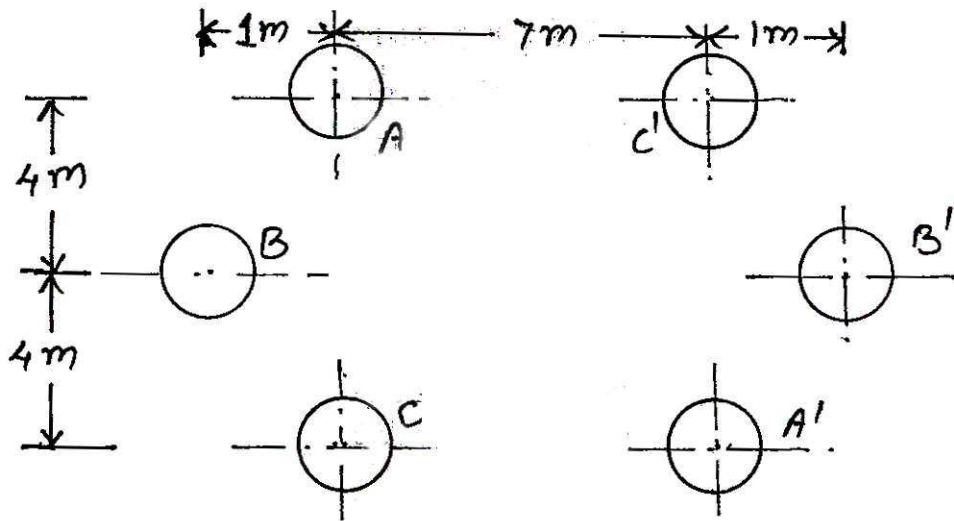

Fig. 1
- (b) Six conductors of a double circuit three phase line are arranged as shown in figure 1. The diameter of each conductor is 2.5 cm. Find capacitance per phase per km assuming that line is transposed. [6]